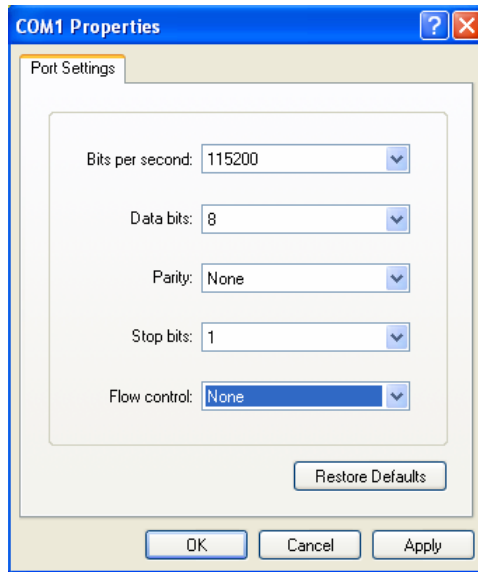

Fig 5
- 1) Input the name “xtendlan”. And do the step 1 again. Then enter into fig 4. select COM1 and click “OK” to enter into fig 5.